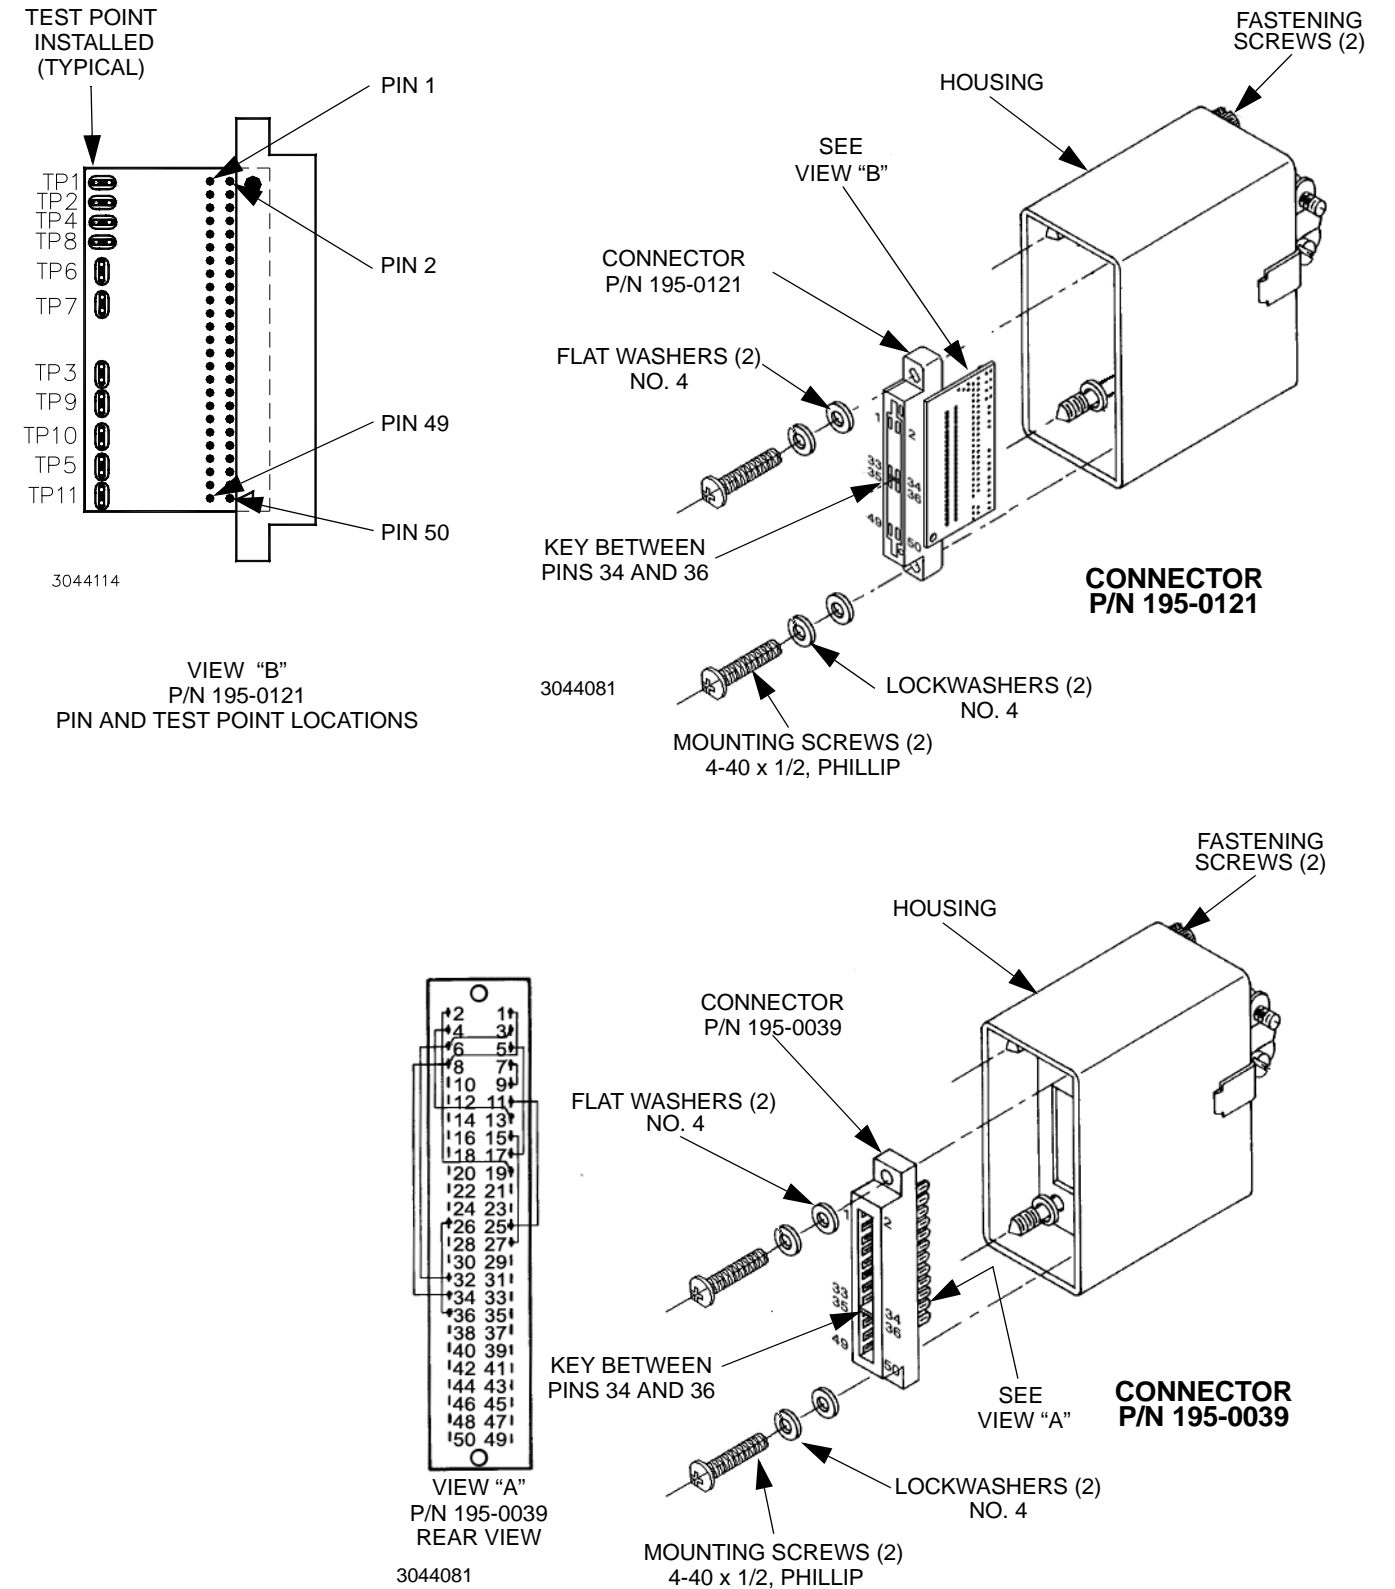

Figure 3-27. PC 15/PC 12 Rear Programming Connector Interconnections
5. SEE FIGURE 3-27 FOR REAR PROGRAMMING CONNECTOR CONNECTIONS REQUIRED FOR LOCAL CONTROL.
NOTE: See PAR. 3.2.1 and Figure 3-27 for Rear Programming Connector details.